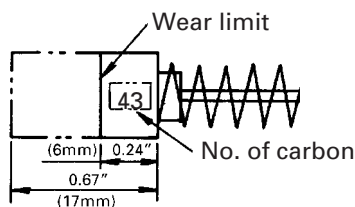

Fig. 8
2. Inspecting the carbon brushes (Fig. 8)
NOTE: Use HITACHI carbon brush No. indicated in Fig. 8.